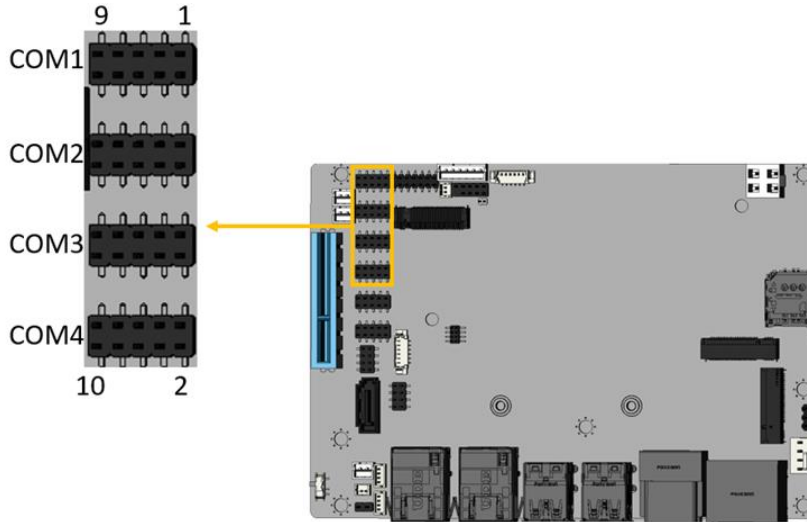

Figure 3-15: RS-232 Serial Port Connectors Location
- CN Location:** See Figure 3-15